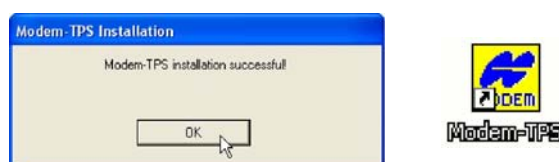

Figure 2-3. Installation Complete and Shortcut
3. Click OK to complete the installation ( Figure 2-3 ).
4. Optionally, create a shortcut on the computer's desktop for quick access to **Modem-TPS** ( Figure 2-3 )